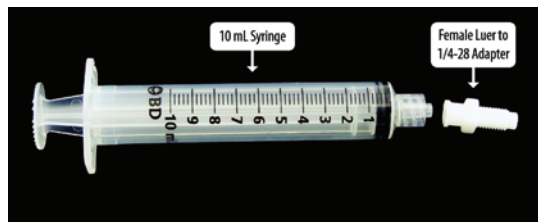

Figure 3. Solenoid valve flushing apparatus.
- Connect the 1/4-28 Female Luer Adapter to the 10 mL syringe (**Figure 3**) and then fill the syringe with dH₂O.